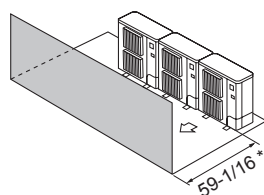

Fig. 2-14
③ Obstacles at front (Fig. 2-14)